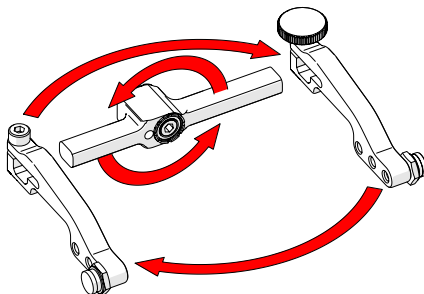

Fig. 95 - Flip yoke and reverse arms
4. Flip the yoke 180° and reverse the probe holder arms (Fig. 95).